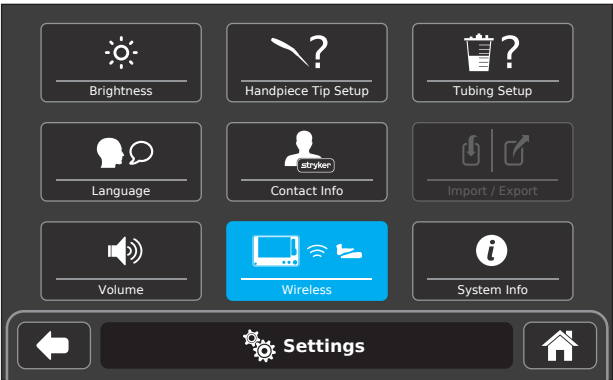

Figure 46 – Access Wireless Connection
1. From the system SETTINGS screen or WIRELESS CONNECTION SETUP screen, touch the WIRELESS button (Figure 46).